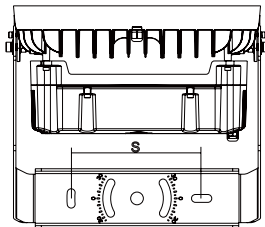

Figure 1
1. Mark the hole distance "S" shown in the product to be installed. (Figure 1)